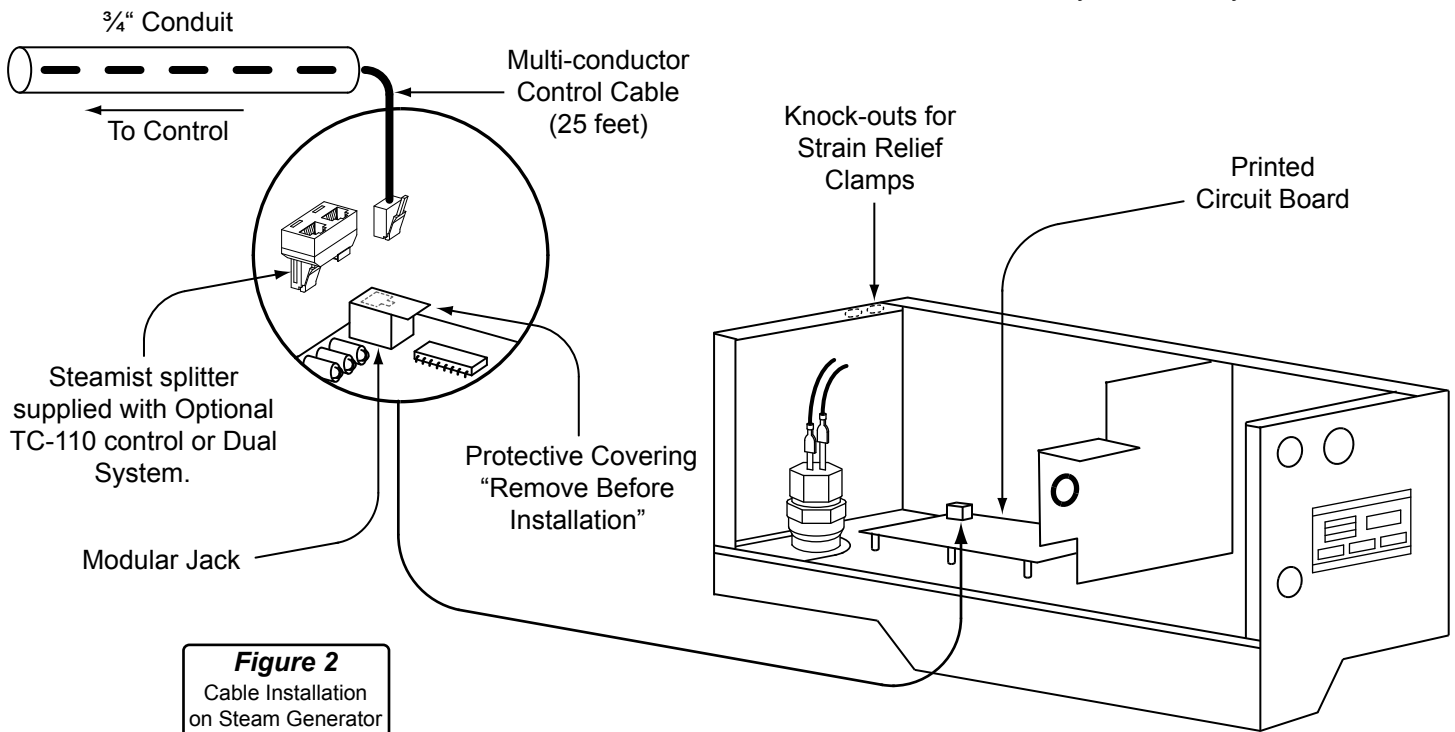

Figure 2
- a) Remove the multi-conductor cable from the control packing box. Carefully route the multi-conductor control cable from the Steambath Generator to the TC-135 located inside the steamroom (see Figure 2). Route multi-conductor cable through a ¾" conduit to protect the cable from damage and to facilitate replacement if necessary.
- Locate the previously installed cable and black plastic strain relief clamp which is in the control packing box. Locate the knock-out on the steam generator for the control cable (see Figure 2).
- If TC-135 is used in conjunction with the optional TC-110 control or Dual System, plug the splitter into the modular jack, this will allow two cables to be plugged into the PC board (see Figure 2).
- Locate Telco Jack at female coupler, on back of the TC-135 control. Remove the protective covering labeled "Remove before Installation". Remove protective cap from cable and plug into jack. Check that the orientation of the plug properly aligns with the jack. A snap will indicate the plug is installed correctly (see Figure 2).